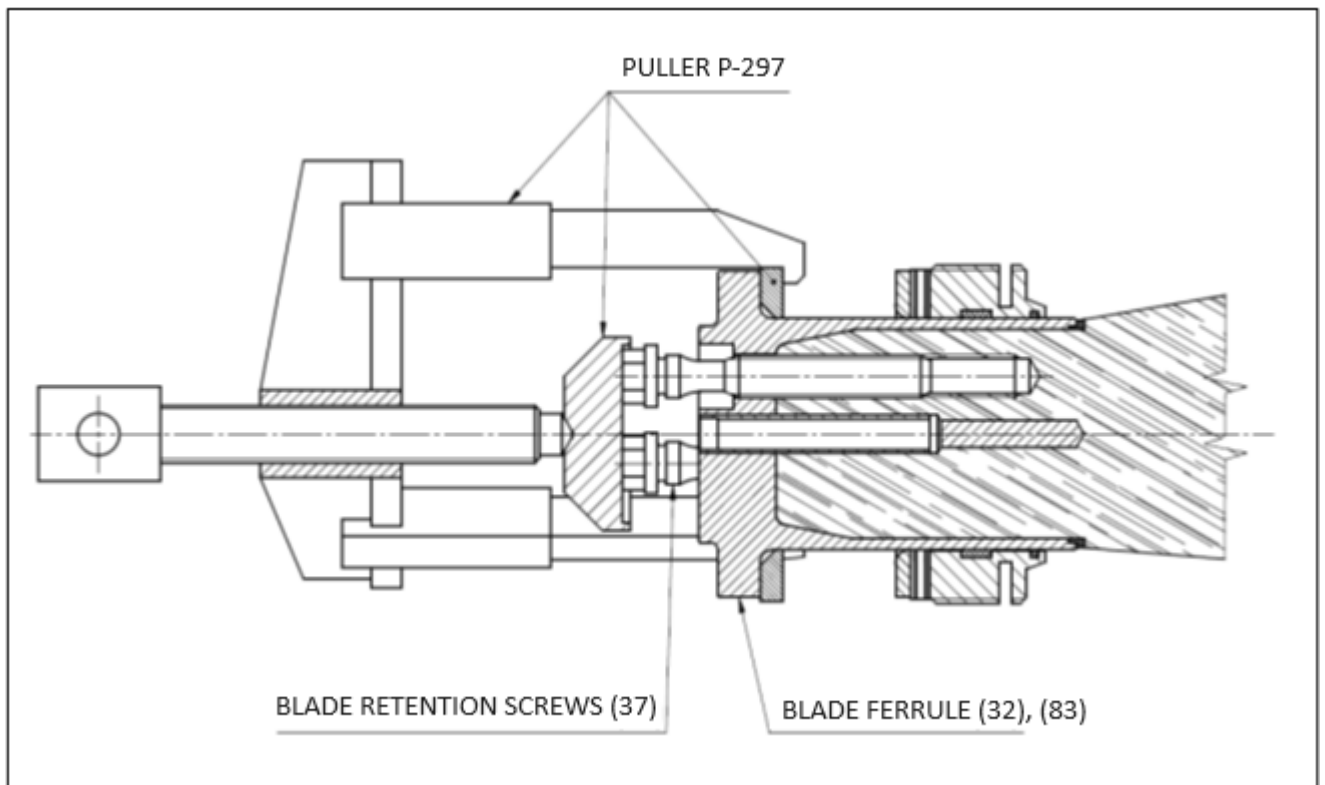

Fig. C-1 Blade ferrule removal
- 1) Use retaining ring pliers to remove retaining ring (25) from propeller blade actuating pin. Remove slider (26) from pin.
- 2) Remove parts (29) and (30) of axial bearing from front face of ferrule.
- 3) Fasten fixture P-294 in vice on workbench. Fix propeller blade tightly into fixture. Use 12mm socket to loosen screws (37) threaded into blade root on front face of ferrule (32)(83).
- 4) Install puller P-297 on blade ferrule (Fig. C-1), lay blade on soft underlay and start pulling blade ferrule by turning the puller screw. When the ferrule is pulled out by 15mm unscrew screws (37) by next 20mm and continue with pulling of the ferrule. When the ferrule is pulled out by next 20mm remove puller P-297 and unscrew screws (37) completely. Finish removing of blade ferrule by light tapping around ferrule collar with wooden or plastic hammer. Lay propeller blade down at location where it cannot be damaged.
- 5) Tube (36) may remain stuck in blade root, if it holds firmly in the blade it is not necessary to remove it. If the tube is pulled out along with the blade ferrule, remove it from the ferrule by gentle tapping with wooden or plastic hammer.